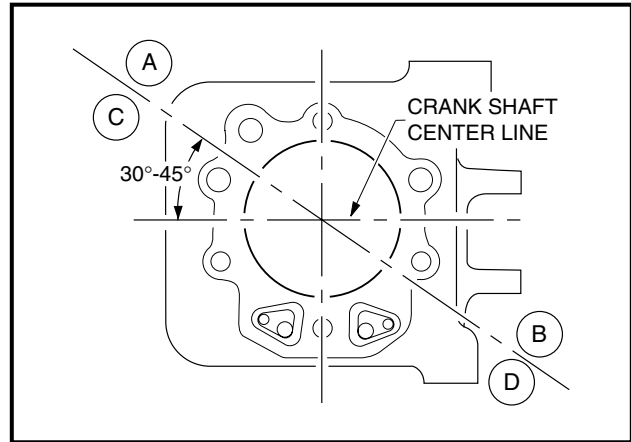

Figure 13-98 Piston Ring Gap Alignment
- Put the piston/connecting rod into the cylinder bore with the lettering MADE IN JAPAN on the connecting rod oriented toward the flywheel side of the engine. Position piston ring gaps so that they are oriented toward the corresponding letters (**Figure 13-98, Page 13-45**): (A) Top Ring Gap, (B) Second Ring Gap, (C) Upper Side Rail Gap, (D) Lower Side Rail Gap.